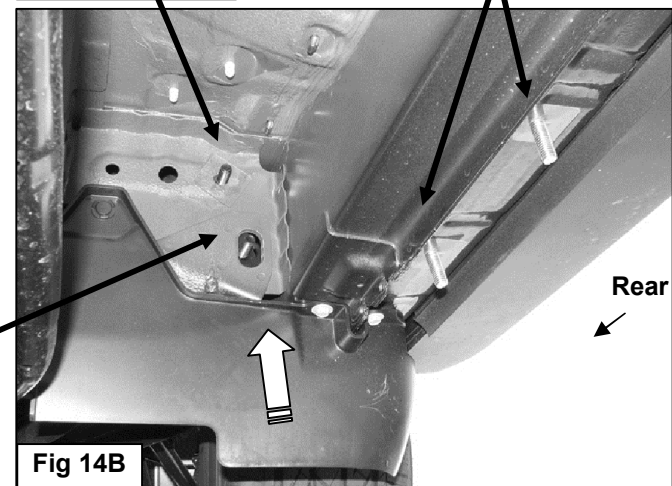

Fig 14B
12. Move to the rear mounting location in front of the driver side rear tire opening. Locate the large oval and the round holes in the inner body panel in front of the rear tire, **(Figure 13)**. Select (1) 10mm Double Bolt Plate and (1) 10mm Plastic Retainer, **(Figure 14A)**. Insert the Bolt Plate into the oval hole and up and out of the smaller round hole above it. Thread the Plastic Retainer onto the Bolt Plate over the round hole only, **(Figure 14B)**.
13. Locate the last (2) round holes along the floor panel, **(Figure 14B)**. Repeat **Steps 2—5** to install the (2) Bolt Plates and Lock Plate, **(Figure 15)**. **NOTE:** Attach the Lock Plate to the front Bolt Plate only with (1) 10mm Flat Washer, (1) 10mm Lock Washer and (1) 10mm Hex Nut, **(Figure 15)**. Tighten the 10mm Hex Nut at this time.